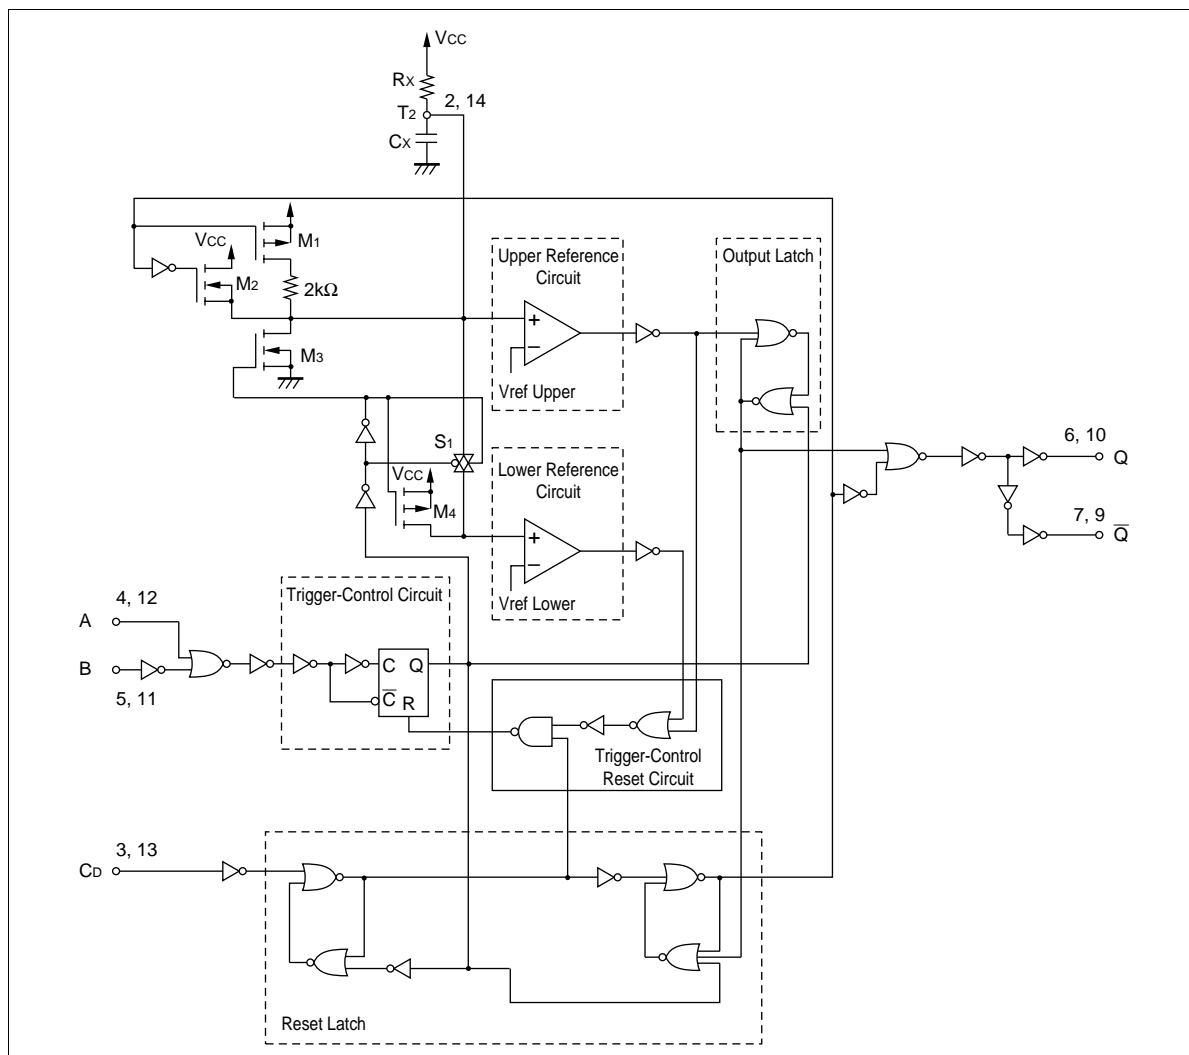
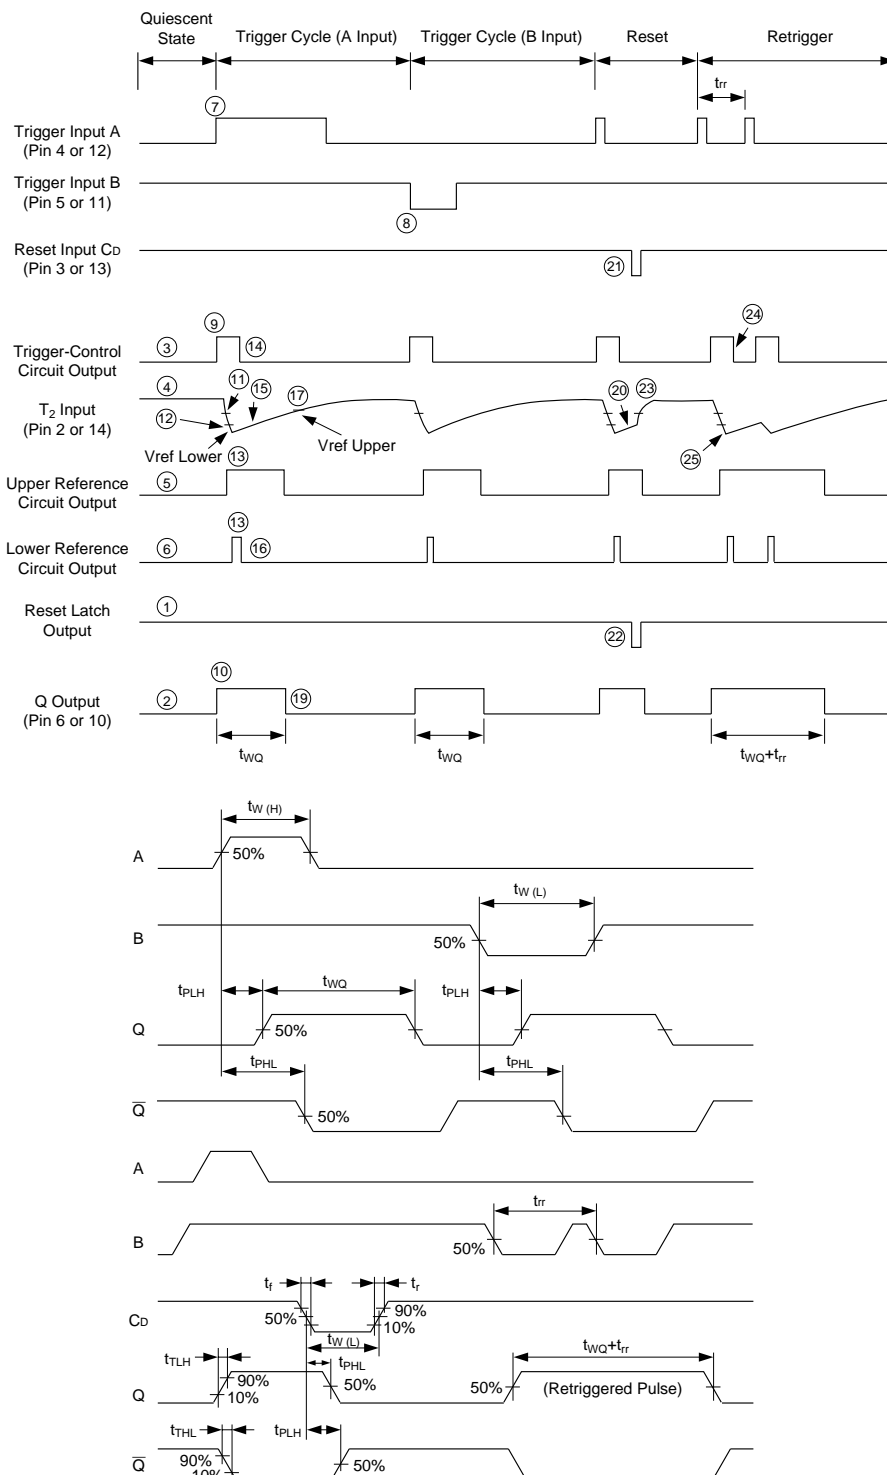
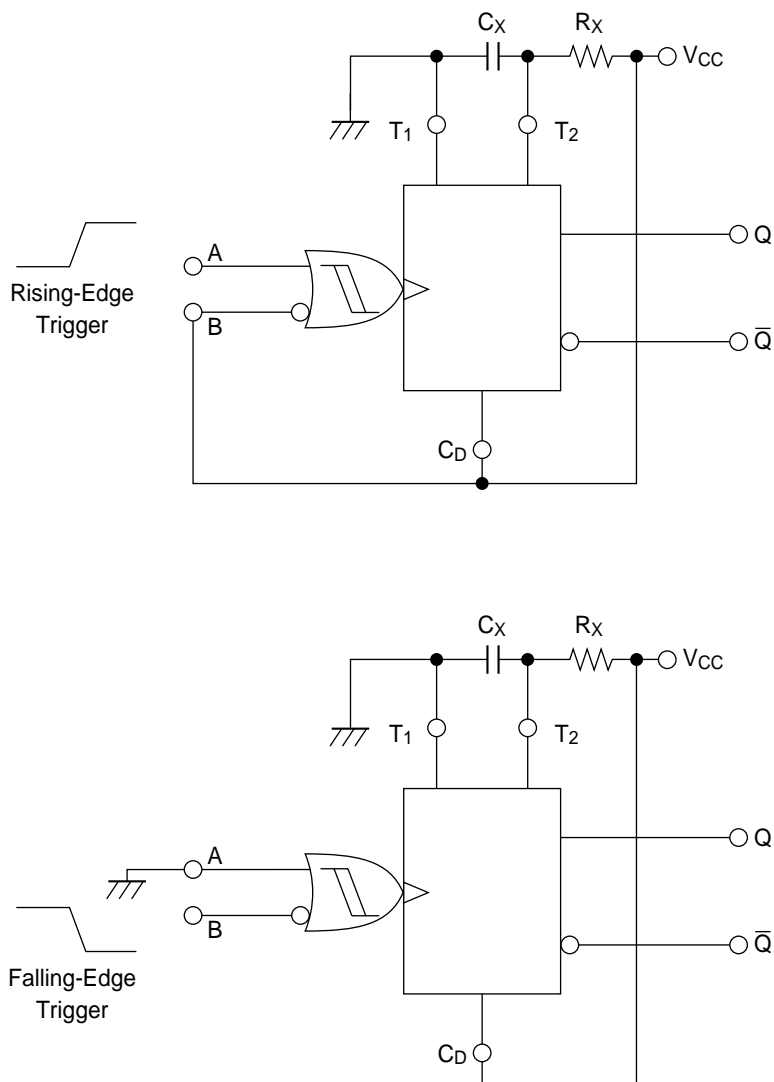

Fig. 1 Function Diagram
Fig. 2 Timing Diagram
Fig. 3 Retriggerable Monostable Circuitry
Fig. 3 shows the HC4538 configured in the retriggerable mode. Briefly, the device operates as follows (refer to Fig. 1): In the quiescent state, the external timing capacitor, C_X , is charged to V_{CC} . When a trigger occurs, the Q output goes high and C_X discharges quickly to the lower reference voltage ($V_{ref\ Lower} \approx 1/3 V_{CC}$). C_X then charges, through R_X , back up to the upper reference voltage ($V_{ref\ Upper} \approx 2/3 V_{CC}$), at which point the one-shot has timed out and the Q output goes low.
The following, more detailed description of the circuit operation refers to both the function diagram (Fig. 1) and the timing diagram (Fig. 2)
In the quiescent state, before an input trigger appears; the output latch is high and the reset latch is high (1 in Fig. 2). Thus the Q output (pin 6 or 10) of the monostable multivibrator is low (2 Fig. 2).
When used in the retriggerable mode (Fig. 3), the HC4538 may be retriggered during timing out of the output pulse at any time after the trigger-control circuit flip-flop has been reset (24). Because the trigger-control circuit flip-flop resets shortly after C_X has discharged to the reference voltage of the lower reference circuit (25), the minimum retrigger time, t_{rr} (Switching Waveform 1) is a function of internal propagation delays and the discharge time of C_X :